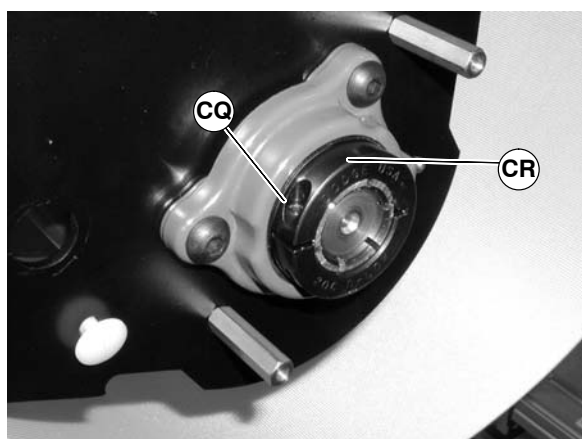

Figure 81
9. Loosen clamp screw (CQ of Figure 81) and remove bearing collar (CR).